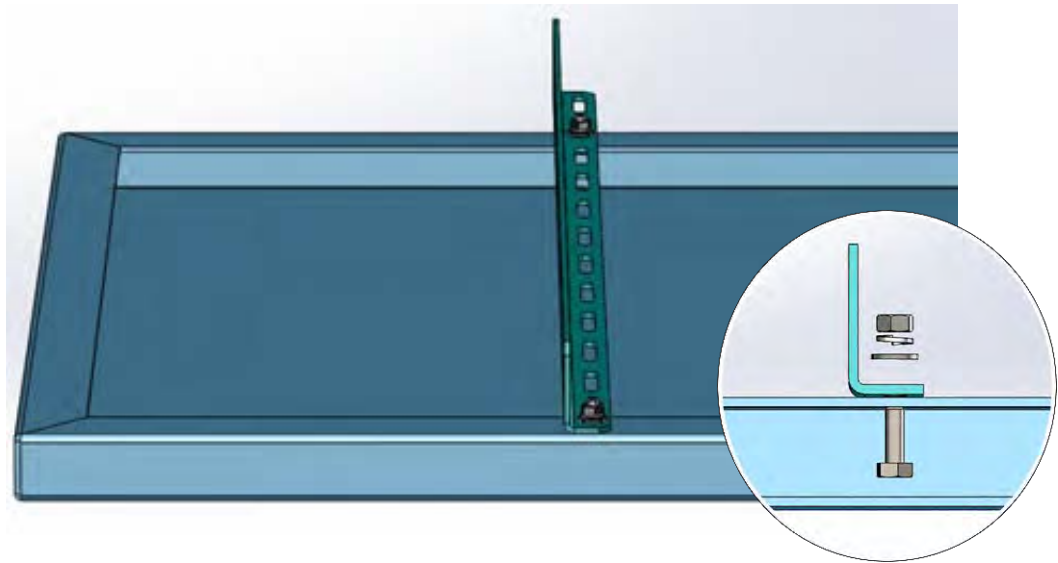

Figure 3. Mounting rail fastened to the panel frame
3. Secure the mounting rails with a 1/4 - 20 x 3/4" bolt, flat washer, lock washer and hex nut in each of the panel mounting holes (4 per panel) as shown in the **Figure 3**. Tighten the bolts to **7 ft-lbs**.